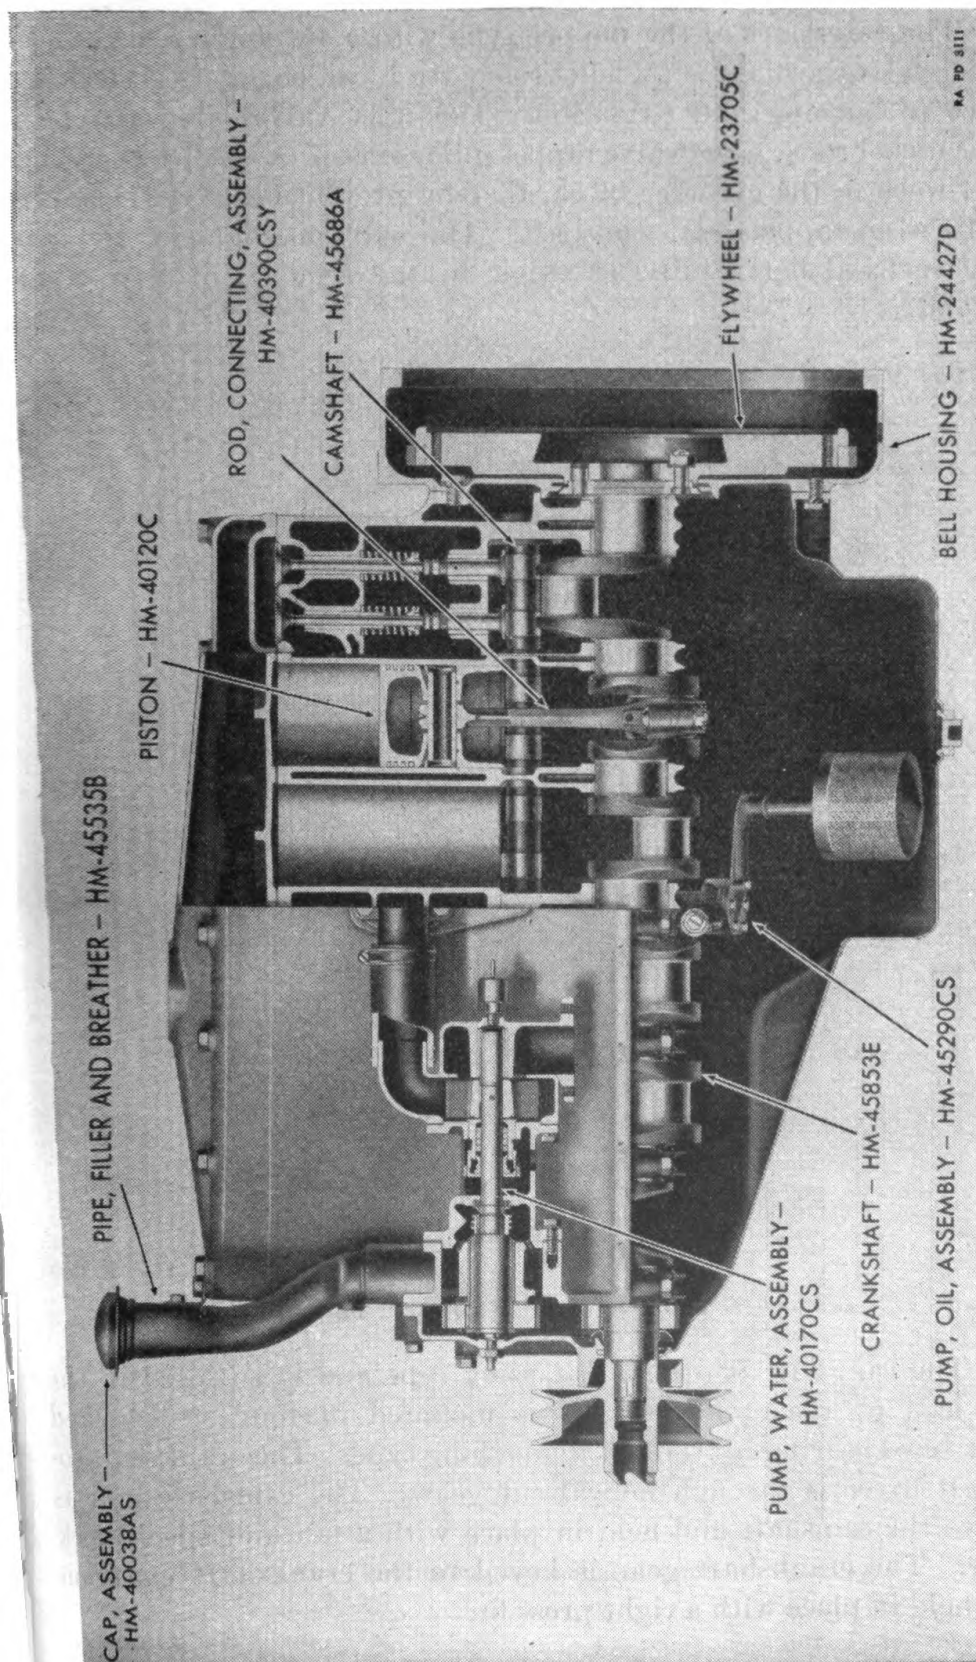

FIGURE 86.—Gasoline engine, sectionalized, side elevation.
a. Construction (fig. 86).—(1) The fan is driven by dual V-type belts from a pulley keyed to an extension on the crankshaft and held